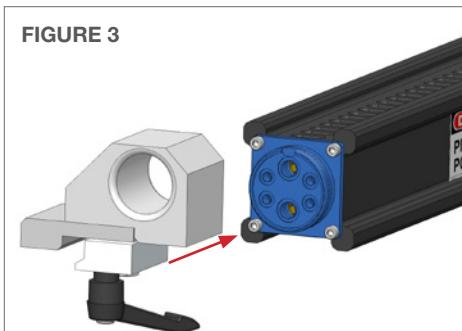
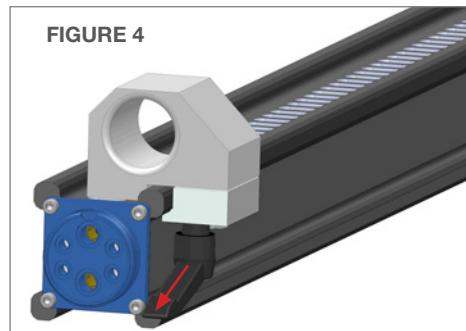

FIGURE 3
FIGURE 4
2. Slide the Rail Stop onto the end of the Horizontal Rail Assembly. (**Figure 3**) Orient and tighten the Release Lever away from the Carriage Assembly. (**Figure 4**)